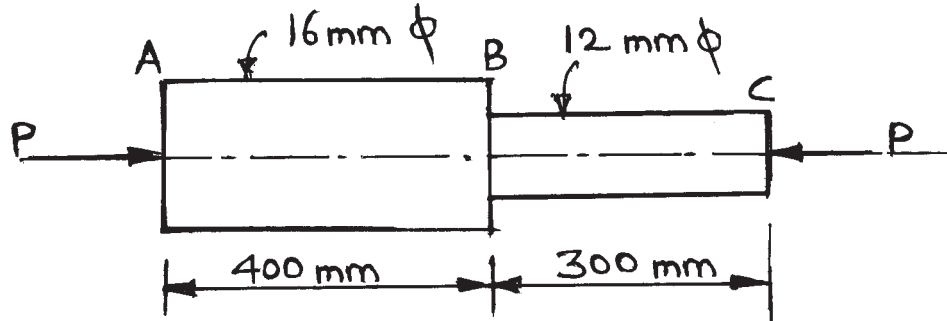

Fig. No. 2
- b) A stepped bar ABC is axially loaded as shown in Figure No. 2. If maximum stress induced in the bar is 100 MPa. Calculate the value of load P. Also calculate net deformation of the bar. Take $E = 110 \text{ GPa}$.